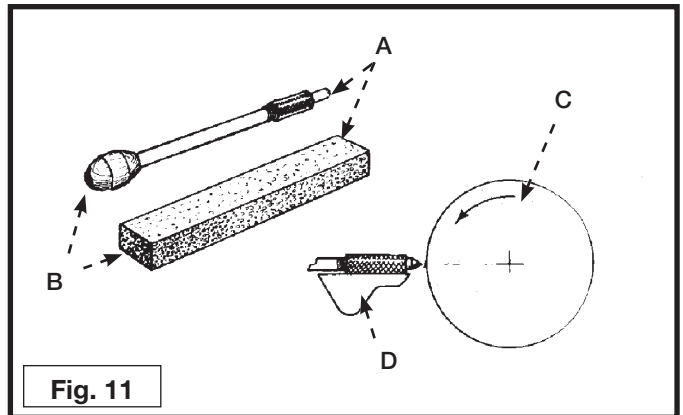

Fig. 11
When dressing a grinding wheel use a suitable silicon (A) carbide stick type dresser (B), as shown in Fig. 11. Move the dresser forward on the tool rest (D) until it touches the high point on the face of the wheel (C). Dress the wheel by moving the dresser back and forth. Repeat this operation until the face of the grinding wheel is clean and the corners of the wheels are square.